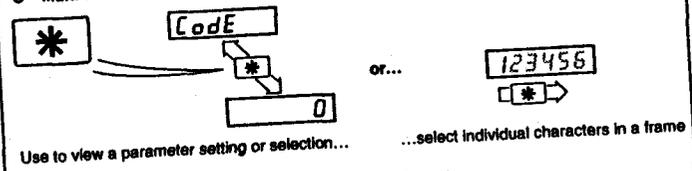

Fig. 1.2 Use of Function Keys
1.2 Use of Function Keys - Fig. 1.2